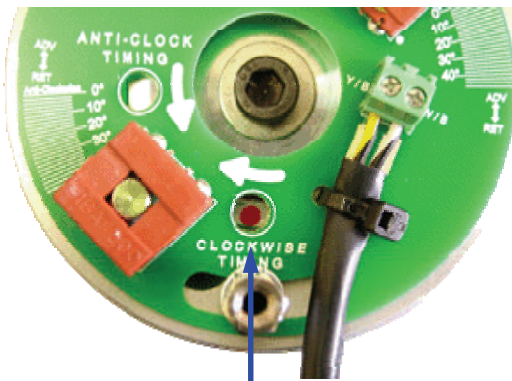
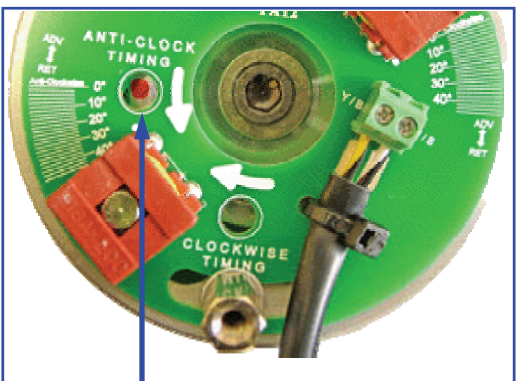

Fig. 3
Fig. 4
12. Check that the engine is still at the correct full advance position, then adjust the magnetic rotor position so that one of the red marks is centrally behind the static timing hole at 9 o'clock (see fig. 4, page 9). [If your machine's camshaft rotates clockwise, refer to fig. 3]. Gently tap the rotor into the taper & tighten the centre bolt, using a 3/16" allen key.